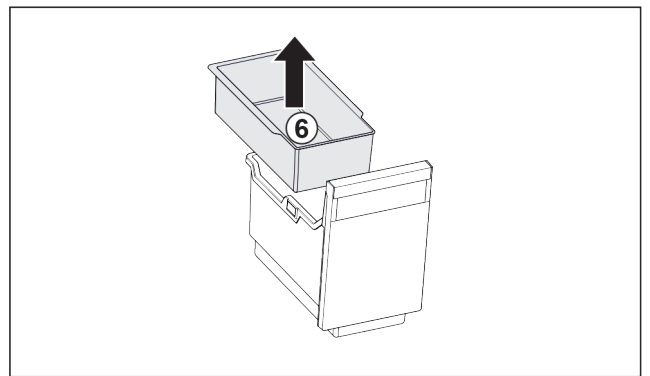

Fig. 101
- Remove the hang-on tray Fig. 101 (6).